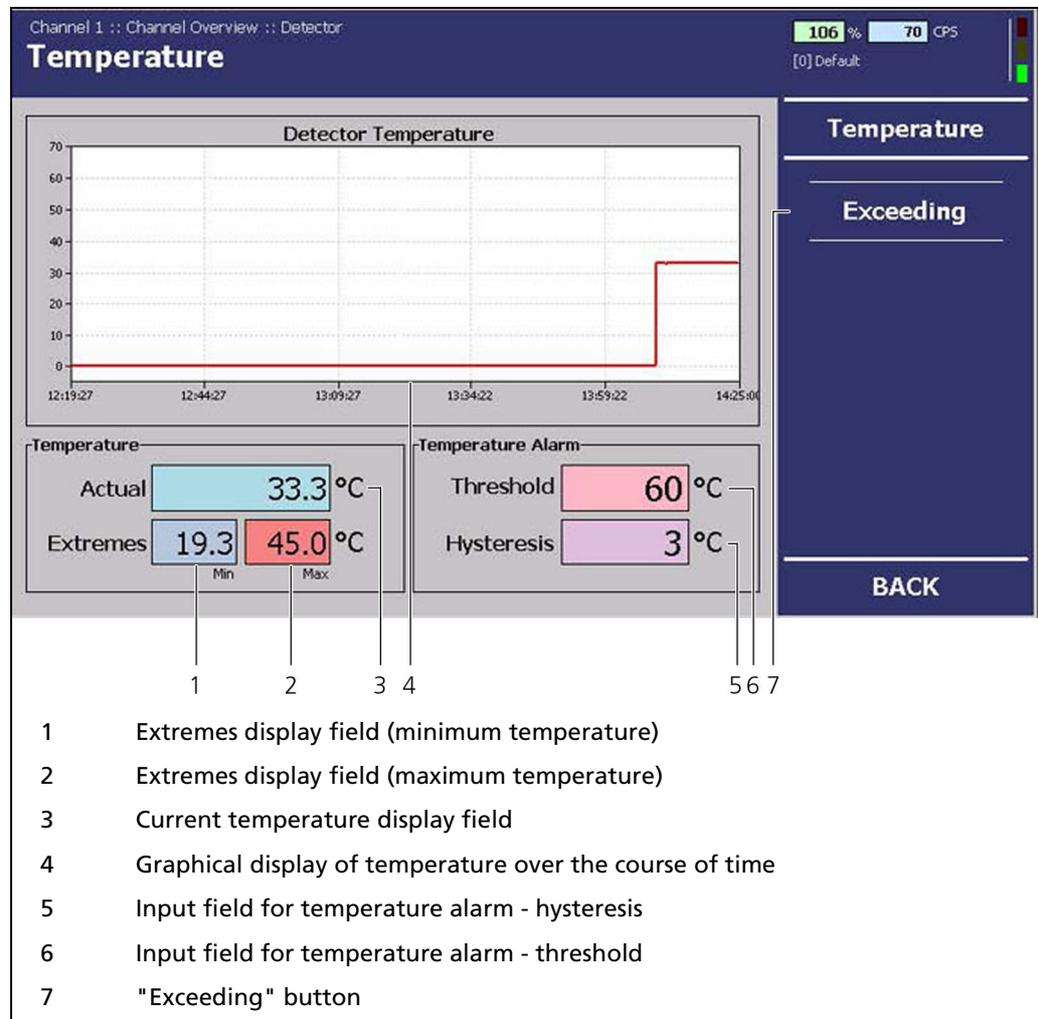

Fig. 27 "Channel Overview" menu, Detector - Temperature
In the menu "Channel Overview" | Detector | Temperature, click on <Exceeding> (Fig. 27, pos. 7) to access the "Exceeding" submenu.